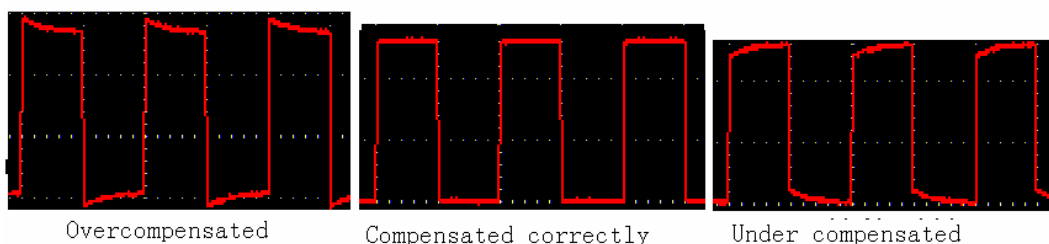
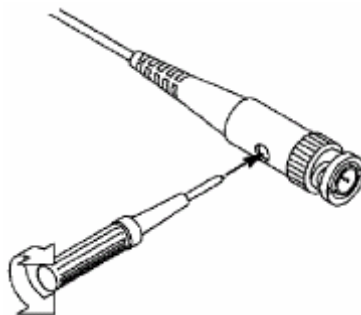

Fig.7 Displayed Waveforms of the Probe Compensation
Fig.8 Adjust Probe
2. Check the displayed waveforms and regulate the probe till a correct compensation is achieved (see Fig.7 and Fig.8).